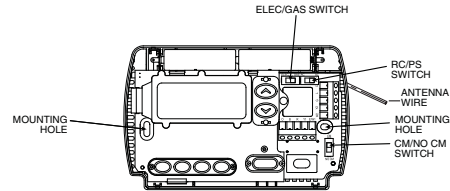
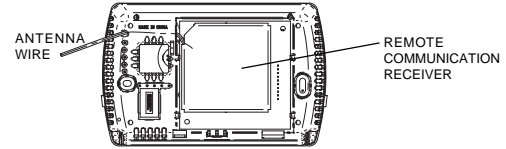

Figure 1 – Thermostat base
Figure 2 – Back of thermostat base
The thermostat must have 24 VAC supplied for the receiver to operate. When the system wiring is connected, if a system common wire is connected to terminal C, the system is providing 24 VAC to the thermostat. The RC/PS switch (see Fig 1) must be in the RC position.
3. Using the thermostat base as a template, place on the selected wall locations and mark the location of all mounting holes (Figure 1), and the hole for the thermostat antenna wire illustrated in Figure 2.
5. Make sure the remote communication receiver is plugged in properly to the thermostat and that the antenna wire is routed through the thermostat subbase as shown in Figure 2.
The ELEC/GAS switch on the thermostat (Fig. 1) is factory set to the ELEC position. In this position, the thermostat will power the circulator fan on a call for heat. Electric heat systems may require the switch to be in the ELEC position.
* The RC/PS switch shown in Figure 1 configures the thermostat for Hardwire or Power Stealing.